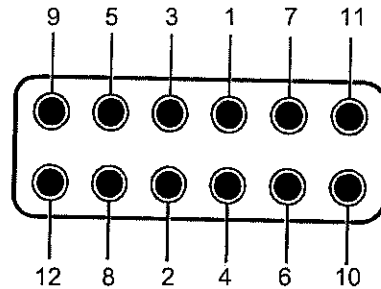

Fig 11 Cylinder head bolt tightening order
26.26 Undo and remove 12 bolts, in reverse of tightening order shown in Fig 11, retaining cylinder head.
37 Tighten cylinder head in four steps in tightening order shown in Fig 11.